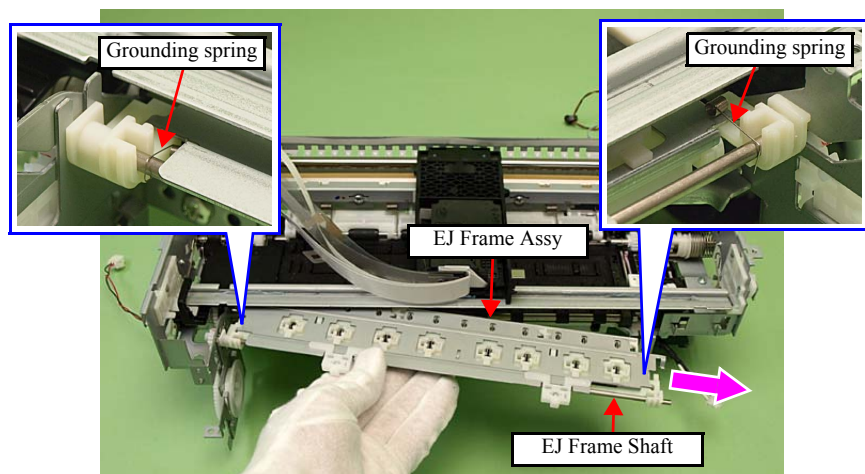
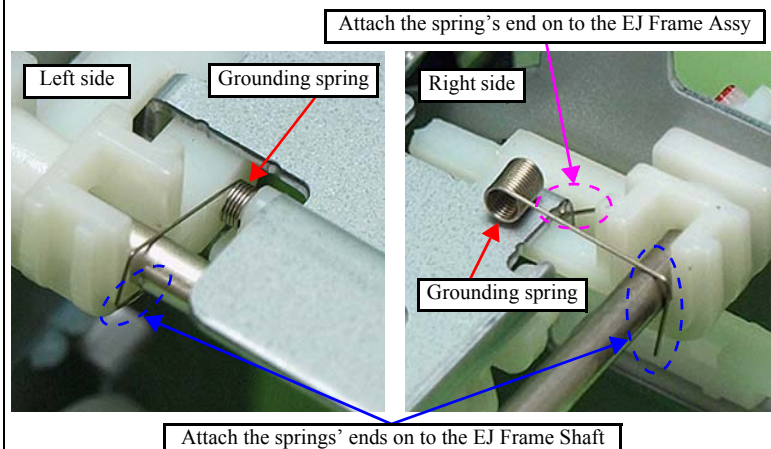

Figure 4-112. Removing the EJ Frame Assy (2)
Figure 4-114. Attaching the grounding spring
- Make sure to attach the grounding springs (x2) of the EJ Frame Assy securely to the EJ Frame Shaft. (See Fig. 4-112, Fig. 4-114.)